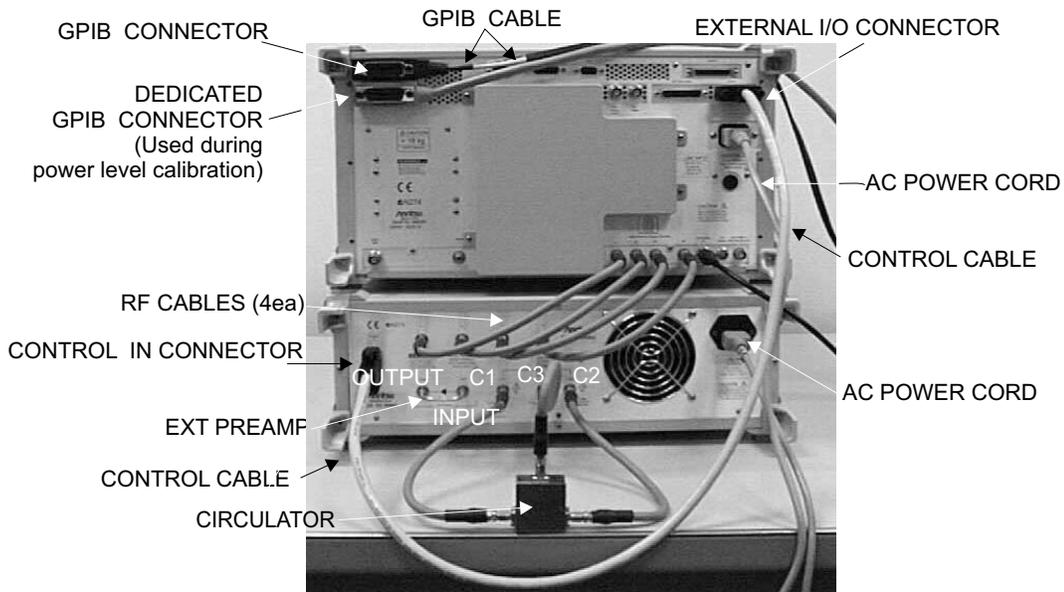

**Figure 2-1.** ME7840A Component Assembly
**Step 1.** Place the MS462XC on top of the MS4782X Test Set. Figure 2-1 shows how the green colored feet on the case of each unit stack on each other.